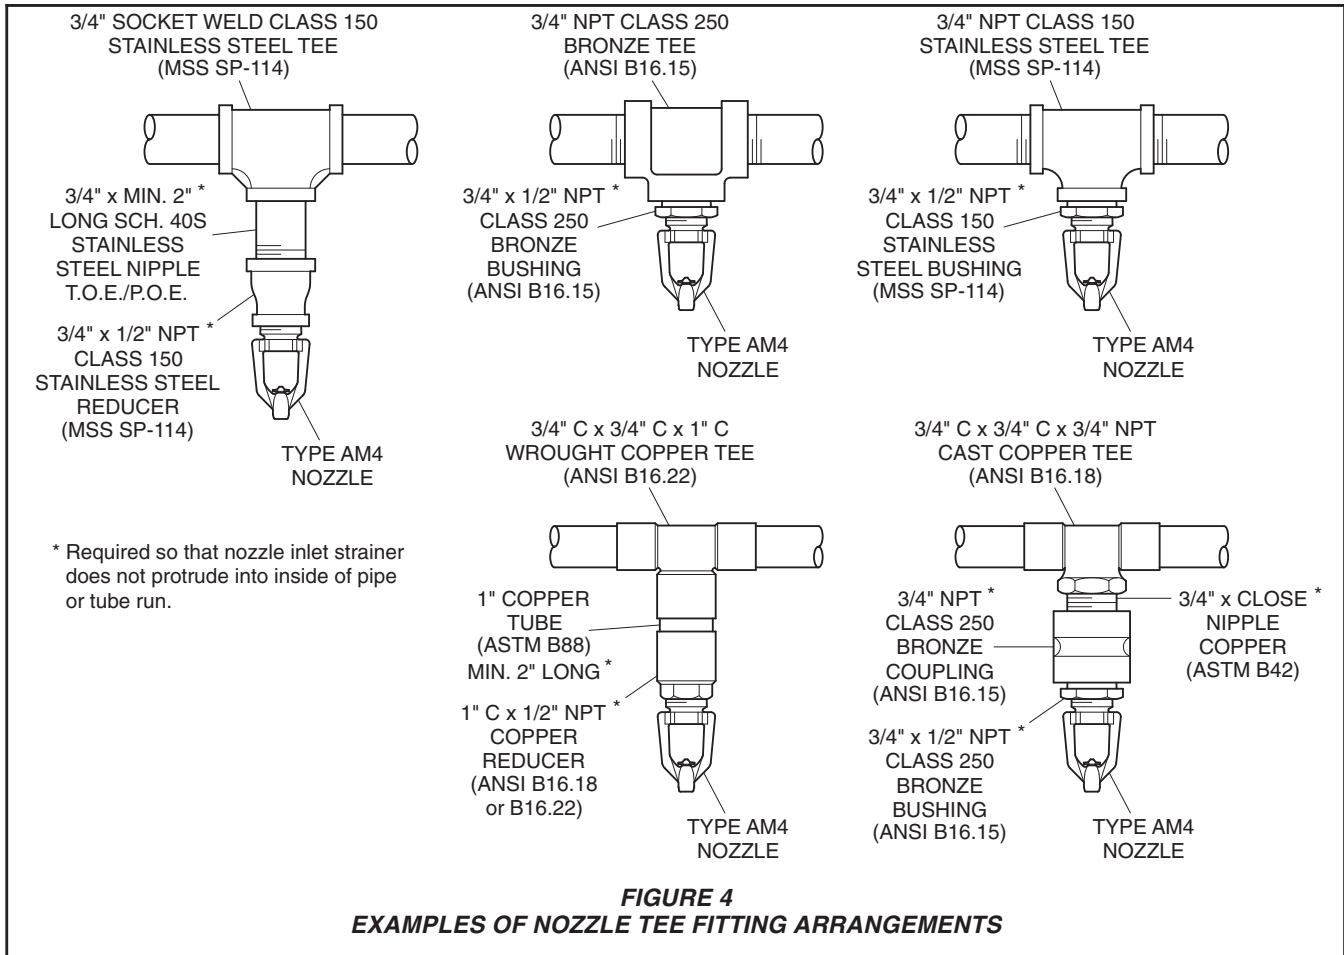

**FIGURE 3
- Nozzle drop nipples are to be as follows (See Figure 3 for examples):